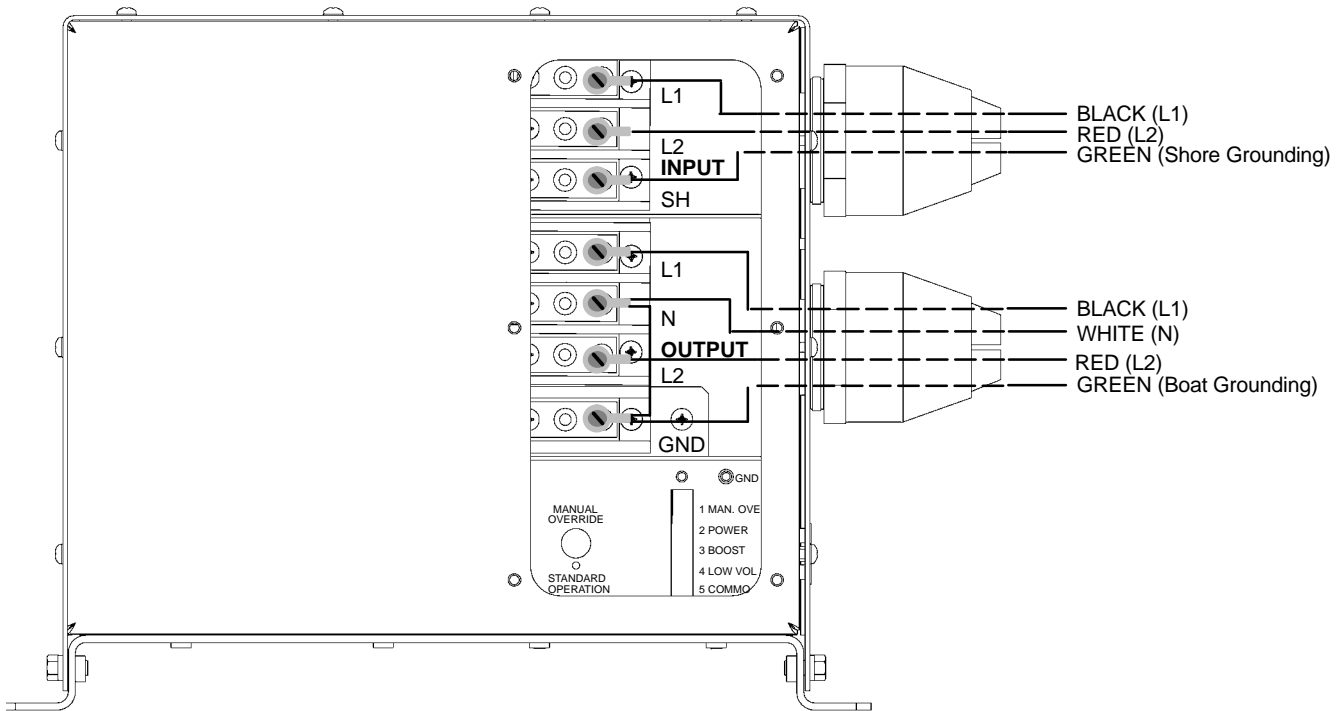
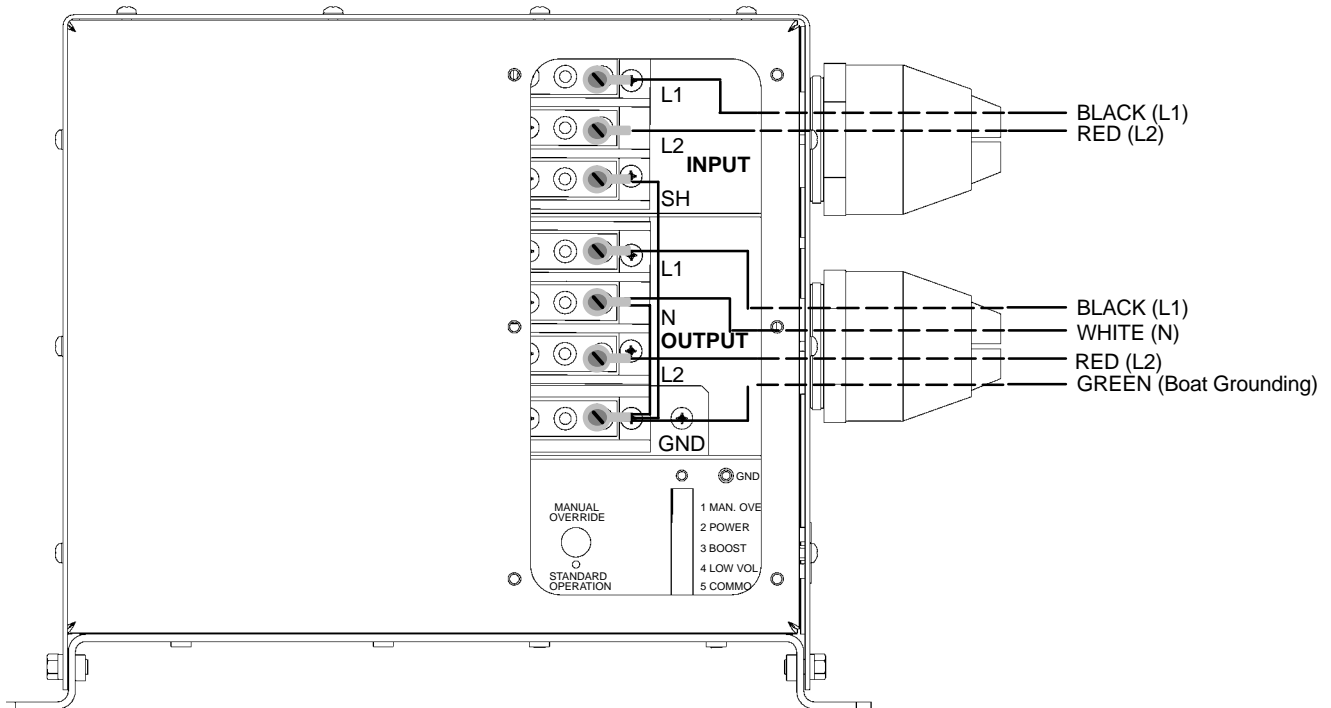
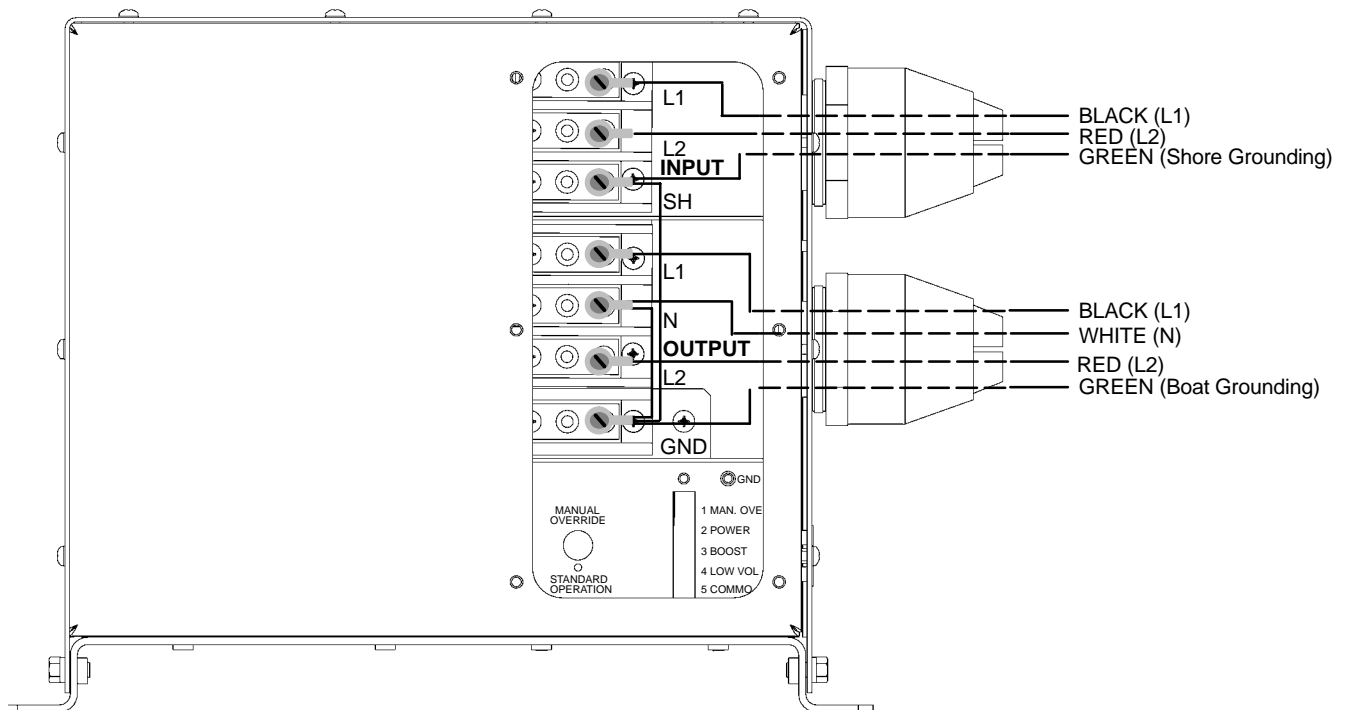

Figure 5. Typical Wiring as an Isolation Transformer – Method 1 (see Figure 1 for Electrical Diagram)
Figure 6. Typical Wiring as an Isolation Transformer with Primary Ground Fault Protector – Method 2 (see Figure 2 for Electrical Diagram)
Figure 7. Typical Wiring as a Polarization Transformer – Method 1 (see Figure 3 for Electrical Diagram)
8.	<p>Connect all wiring as shown in Figure 5, Figure 6, or Figure 7 based on the chosen wiring method as follows:</p> <p>L1 and L2 (both input and output) Use UL recognized #6 AWG insulated butt connectors for making all L1 and L2 connections. Crimp and tape each connection individually with UL recognized electrical tape.</p> <p>GND and N (neutral) Use UL recognized ring or captive spade terminals for making the GND and N connections at the GND screw.</p> <p>SH When wiring as an isolation transformer, use a UL recognized insulated #4 AWG butt connector for the SH (shield) connection. Crimp and tape the connection. When wiring as an isolation transformer with primary ground fault protection or as a polarization transformer, use a UL recognized ring or captive spade terminal for making the SH (shield) connection at the GND screw.</p>